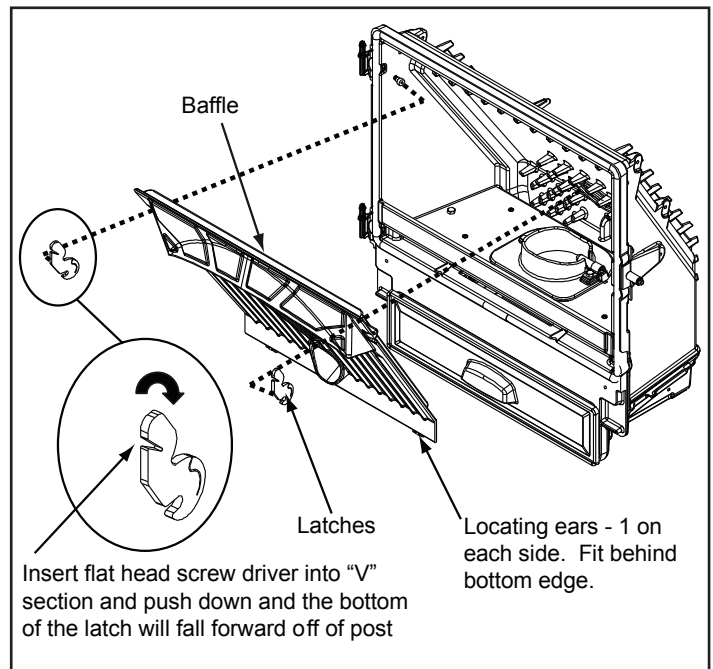

Figure 39.2
- Remove baffle by placing a flat head screw driver into the slot of the latches located in the upper corners and push down. The bottom of the latch will fall forward off of the post. Lift the baffle up and then out toward you. **Figure 39.2.**